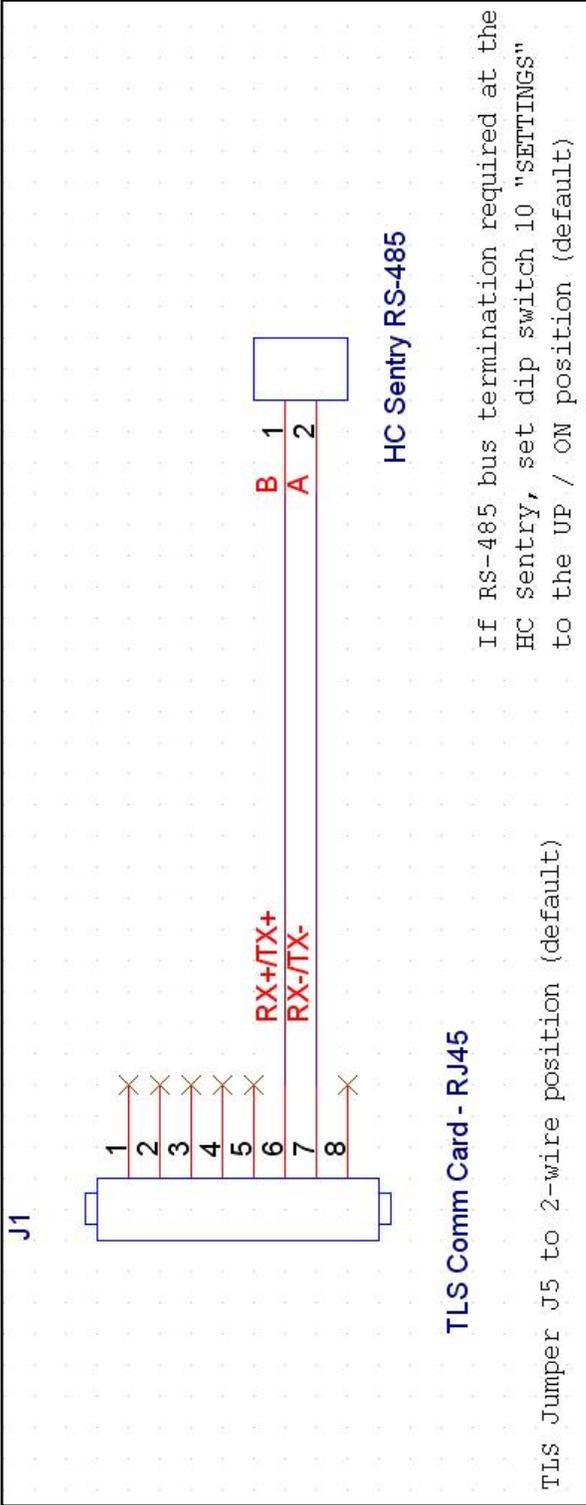

Figure 33: HC Sentry RS-485 Cable Wiring Diagram
- **See Figure 33: Section 14 / Page 76 TLS – HC Sentry RS-485 Cable for the wiring diagram.** VST does not provide this cable or the RJ-45 connector to the Multiport card in the TLS communication bay.